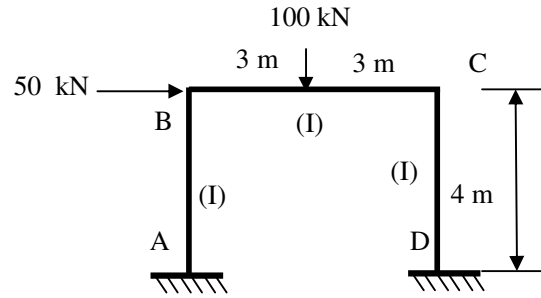

Fig.2 Q.3
Q.3 Analyse a plane frame shown in fig.2 using stiffness member approach and construct BM diagram. **14**